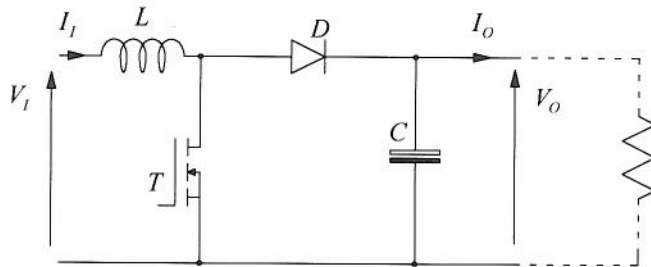

Figure Q2
2. Figure Q2 show the circuit of a boost switch-mode power supply (SMPS). It is to be operated with an input voltage of 5 V and output voltage of 15 V. It will be required to process a maximum throughput power of 10 W and have an output voltage ripple which is no greater than 75 mV. The turn-on and turn-off energy losses of the MOSFET operated at 2 A are 4 μ J and 6 μ J. The on-state resistance of the MOSFET is 0.2 Ω .